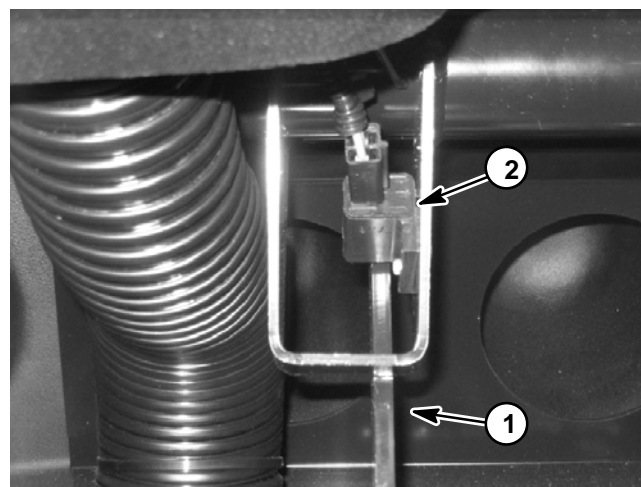

Figure 12
The brake switch is a normally closed switch that is attached to the frame under the dash (Fig. 12). When the brakes are not applied, the brake pedal presses the brake switch plunger to open the switch. When the brakes are applied, the pedal moves away from the brake switch plunger to allow the switch to be in the normally closed state and to allow a current path to illuminate the stop lights.
1. Park vehicle on a level surface, shut engine off, remove key from ignition switch and apply parking brake. Locate the brake switch (Fig. 12).
3. With the use of a multimeter (ohms setting), test for continuity across the two (2) switch terminals. There **should be** continuity (zero ohms) when the brake pedal is depressed and there **should not be** continuity (infinite ohms) when the brake pedal is released.